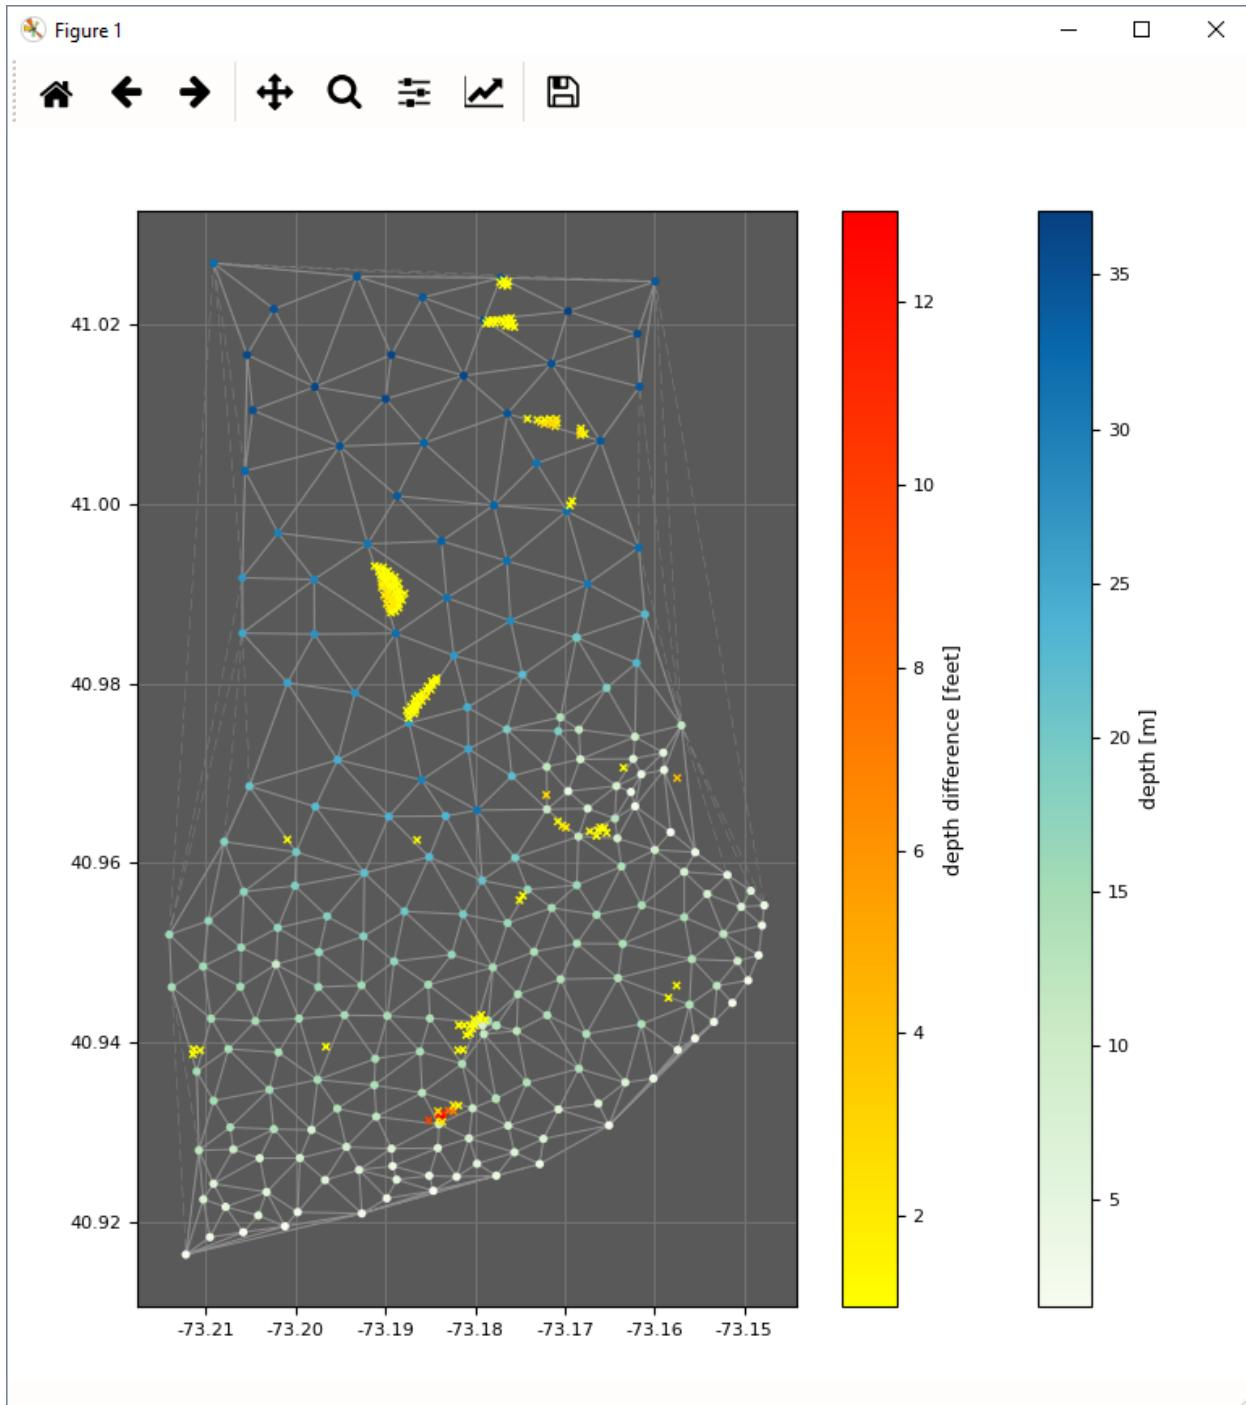

Fig. 2.66: Triangle rule's output display.
- After executing, the results are also shown graphically (Fig. 2.66). Chart-scale soundings are colored by depth, and flagged survey-scale soundings that may not be adequately represented are colored by their discrepancy.